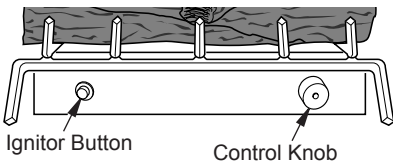

Figure 28 - Control Knob and Ignitor Button Location
5. Turn control knob counterclockwise ↺ to the PILOT position. Press in control knob for five (5) seconds (see Figure 28).